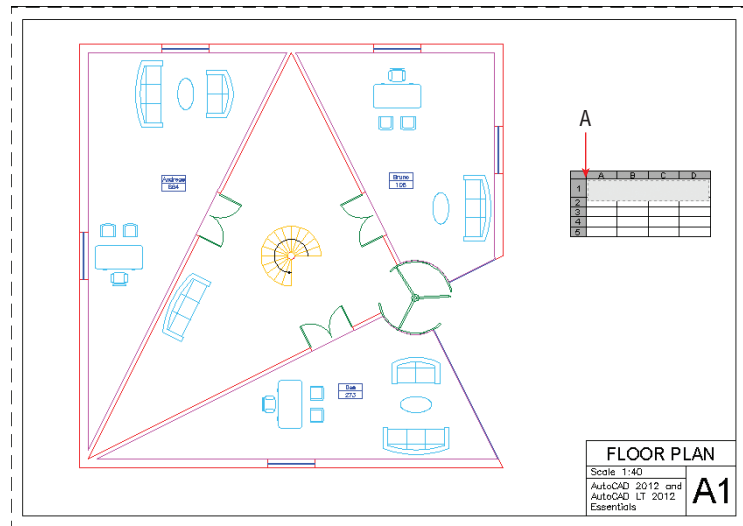

FIGURE 15.19 Placing a new table on the layout
- Click approximately at point A in Figure 15.19 to place the empty table on the layout.